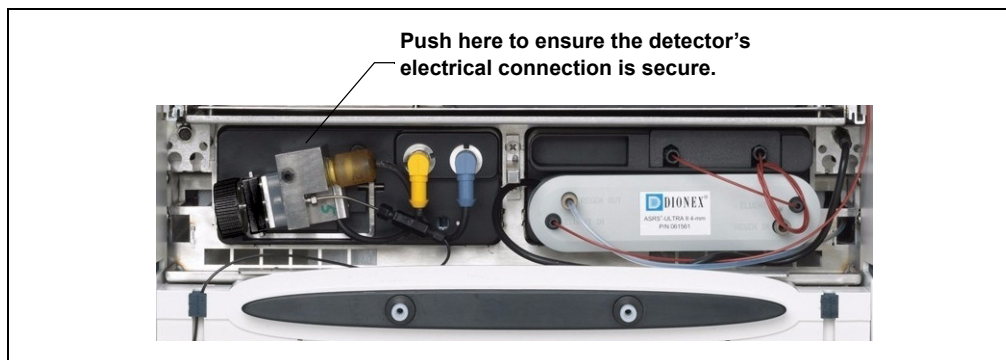

Figure 8-4. Electrochemical Detector Connection
1. Check the detector connections: Verify that the signal cable from the cell is connected to the appropriate connector on the detector block (see Figure 8-4). Also, push firmly on the detector to ensure the electronics connector on the back of the detector is securely connected to the receptacle on the detector compartment.
Check the cable connection: Verify that the signal cable from the working electrode is connected to the detector block (see Figure 8-4).